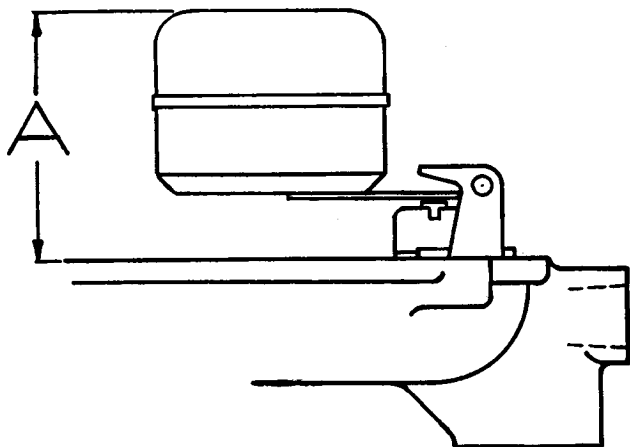

Figure 3
17. Replace idling jet (5) using a small screwdriver (no gasket required).
22. Check position of float to obtain correct fuel level, as shown in Figure 3. The A dimension should be $1\frac{1}{2}$ " plus or minus $\frac{3}{4}$ ". (Move the gasket to one side while making the measurement.)
23. Place the venturi (1) in position in the throttle body. **NOTE:** 161 Series venturi has a locating boss that fits into a groove in the throttle body.
26. Install idling adjusting screw (6) and spring.
- NOTE:** As a preliminary adjustment, set the idling adjustment (6) and the main jet adjustment at one full turn open and adjust the throttle stop screw to hold the throttle just slightly open.